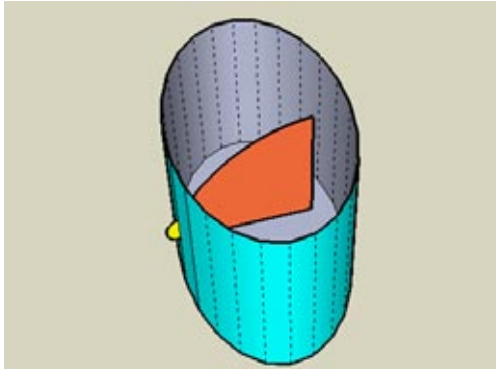

Figure 4-11
5. Erase all new faces except for one vertical face on the inside and one vertical face on the outside. Draw a small half-circle face on the outside vertical face (shown in Figure 4-11 in yellow) and a tall arc (shown in orange) on the inside vertical face. The orange face will be used to create the lid, and the yellow face will be used to create the lip around the bottom of the lid. Trim the rest of the temporary vertical faces. If you paint your new faces, be sure to paint both the front and back face, to ensure that the colors will show even if the Follow Me operation reverses the faces.